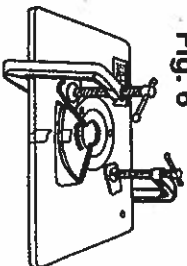

Fig. 6
5. Clamp the plates together with 'C' clamps or wood clamps. Do not use spring clamps, as they do not exert enough pressure and may allow the parts to move (Fig. 6).